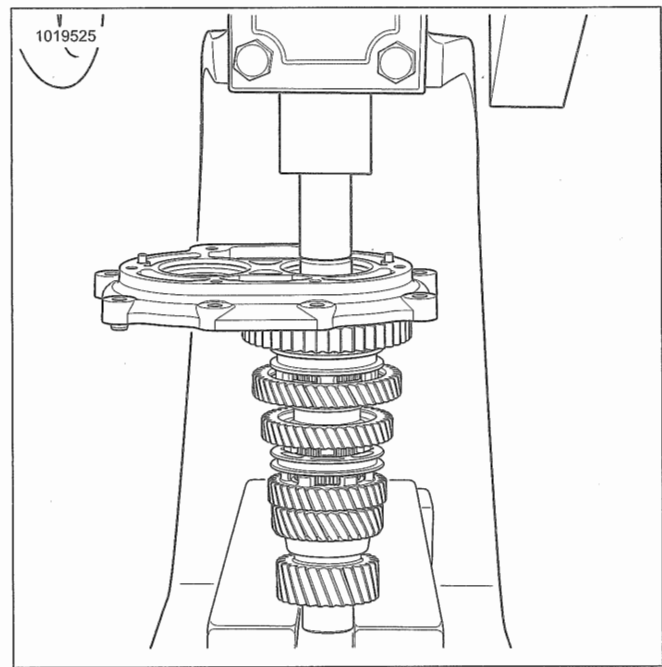

Figure 5-56. Installing Countershaft
5. See Figure 5-56. Install countershaft to bearing housing.